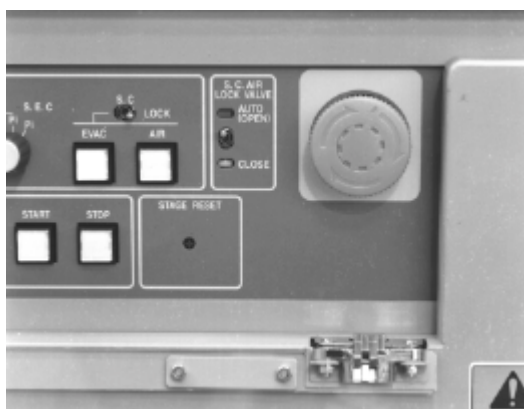

Figure 8-32: Resetting the Emergency Shutdown Switch
1. Confirm that that system is in the normal operating condition. Turn the emergency shutdown switch in the direction indicated in Figure 8-32 to reset the switch to its original position.